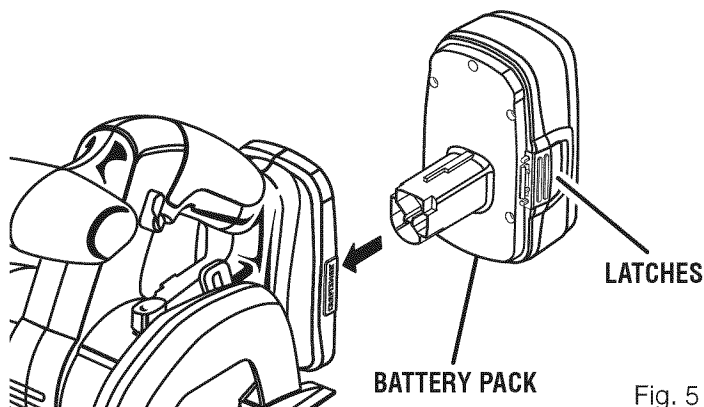

Fig. 5
See Figure 5.
- Place battery pack in your saw. Align raised rib on battery pack with groove inside saw, then slide battery pack in saw as shown in figure 5.